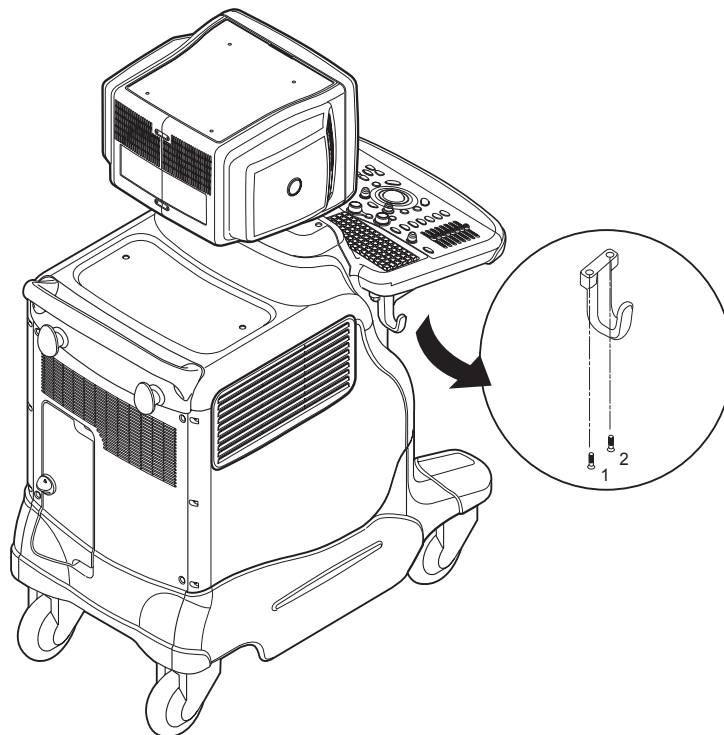

Figure 8-54 Removing ECG Cable Hook
- 2.) Unscrew two(1-2) screws from the bottom of the keyboard. Refer to Figure 8-54 on page 8-17 .